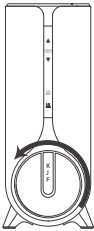

Figure 21
- (1). Close the tap and wait for 30 seconds to fully release the pressure of the system.
- (2). Take out the old filter. Rotate the old filter 90 ° counterclockwise and take it out. **(Figure 21)**